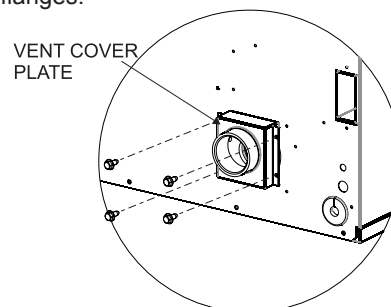

Figure 11
5. Secure the vent cover plate to the vent adaptor plate with four (4) 10 x 1/2" sheet metal screws (provided). **See Figure 11.** **CAUTION:** To ensure a watertight seal, leave no more than a 1/8 inch gap between the vent cover plate and the vent adaptor plate flanges.